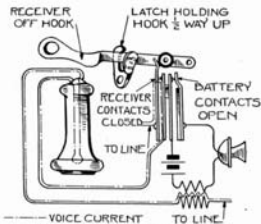

Fig. 12—Correct Spring Adjustment—
- 2—*Receiver Off Hook*, lever held in its half-raised position by Battery-Saver latch, the two left hand contacts then are closed and the two right hand contacts open, as shown in Figure 12.